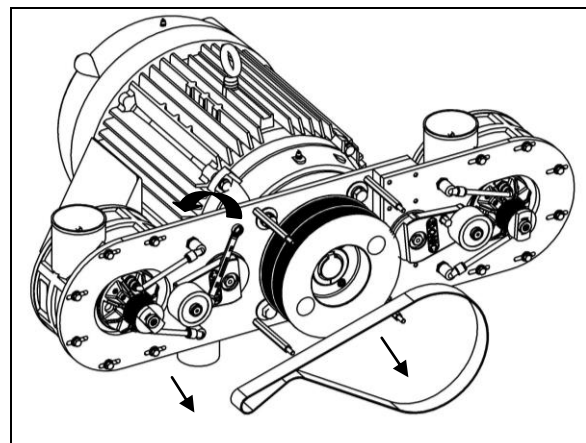

Figure 28 – Remove Belt
2. Using the 9/16 inch box-end wrench, rotate the belt tensioner arm counter clockwise (CCW) and remove the belt. (See Figure 28)